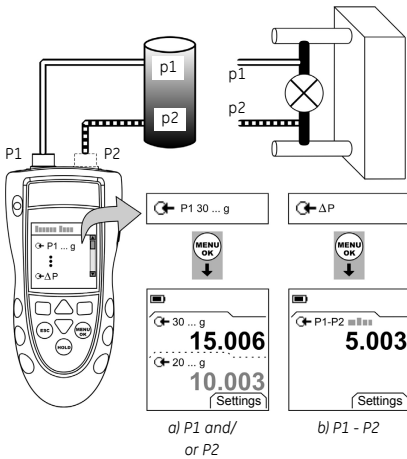

Figure 2: Example configuration - Measure pressure
1. Connect the instrument (Figure 2) and, if necessary, adjust the *Set Up* (Table 1).
The examples in Figure 2 show:
1. Connect the instrument to the pressure standard (Figure 2).